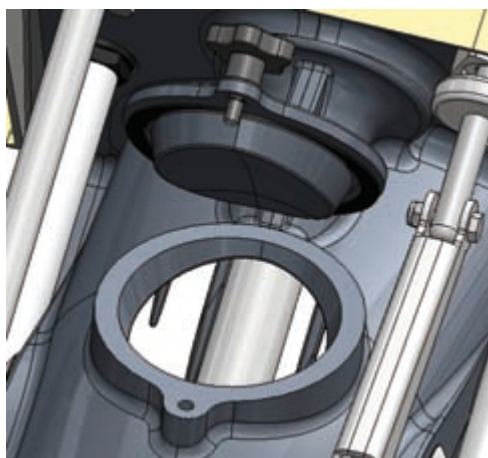

Figure 34. Opened inspection hatch
1. Open the inspection hatch (Figure 34).